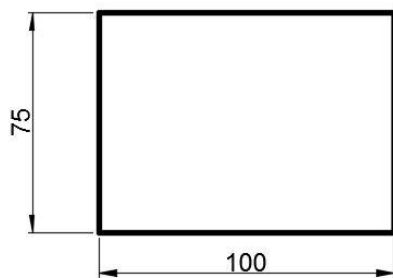

Fig 1
1. Select the thickness of 5mm Mild steel plate and using scribe and steel ruler mark the required dimensions as per given fig 1.